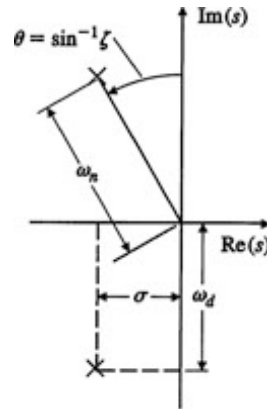

Figure 1: Location of a pole in terms of ω_n and ξ .
- Going back to Figure 1 and equations (5) and (6), what does this mean will happen to ξ and ω_n as K increases?